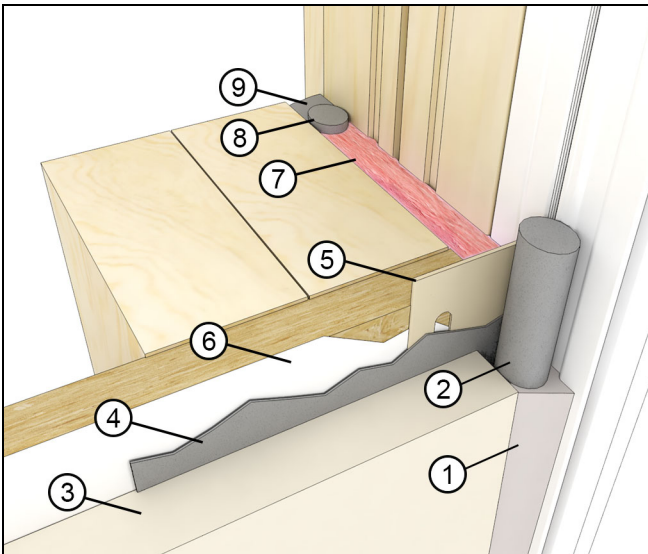

Figure 43
1. For ALL applications: Once the exterior finish such as siding or brick veneer is installed, apply bead of sealant between the finish and the frame exterior or casing along the sides. Apply additional beads approximately 1"- 2" (25-51) at the ends on top of the drip cap. Use a backer rod when necessary. See Figure 43 and Figure 44.